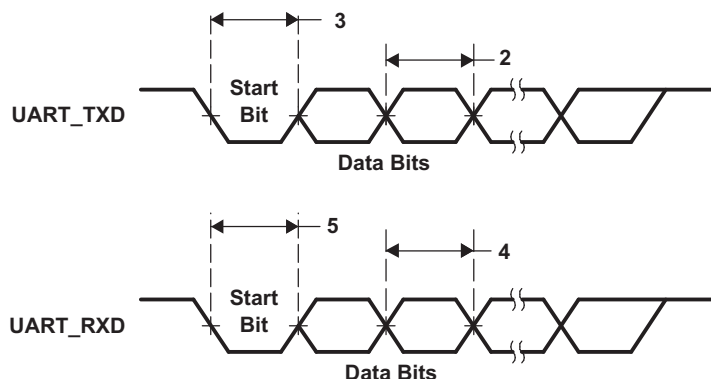

Figure 5-29. UART Transmit/Receive Timing
Table 5-30. Timing Requirements for UART Receive(1)(2) (see Figure 5-29)
- (1) U = UART baud time = 1/programmed baud rate.
- (2) These parametric values are measured at DVDDIO = 3.3 V, 2.75 V, and 2.5 V
Table 5-31. Switching Characteristics Over Recommended Operating Conditions for UART Transmit(1) (2) (see Figure 5-29)